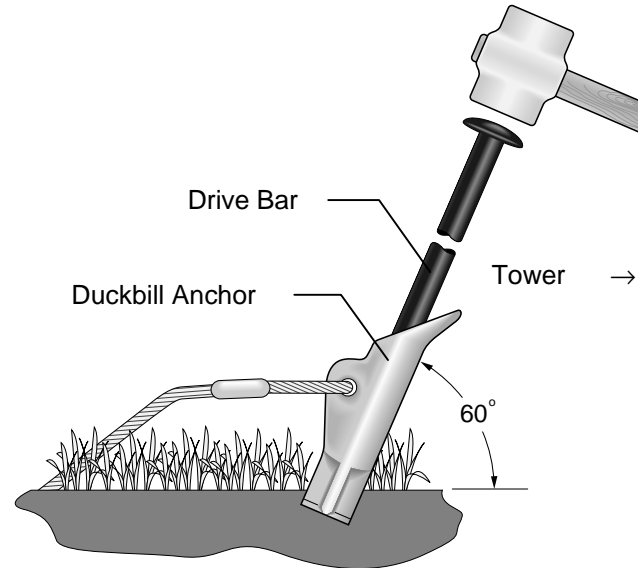

FIGURE 2.1-7. UTDUK Duckbill Guy Anchor
1. Locate the three anchor locations (Section 2.1.2). It is important that the anchors be driven at the same angle as the guy wires (Figure 2.1-7). Insert the steel drive bar into the anchor body and drive the anchor into the ground using a fence post driver or sledgehammer until only the top half of the loop remains above the ground.